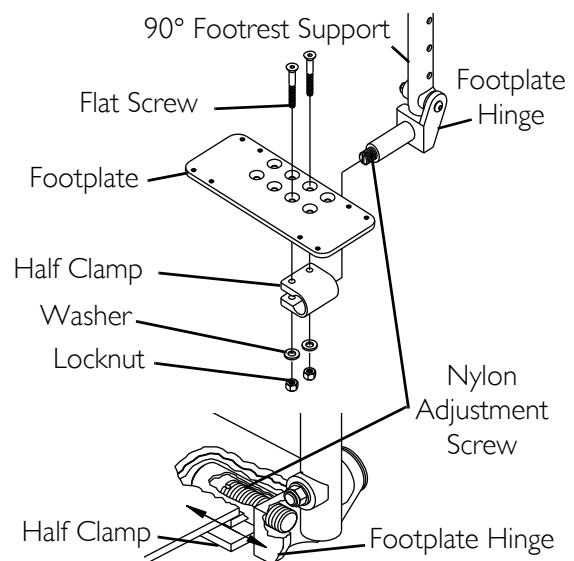
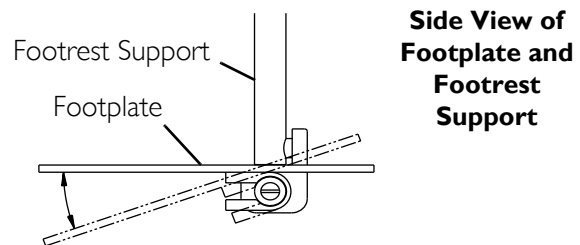
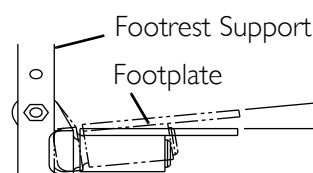

FIGURE 6.7 Installing Adjustable Angle Flip-up Footplates
FIGURE 6.8 Angle Adjustment
FIGURE 6.9 Perpendicular and/or Inversion/Eversion Adjustment
NOTE: For this procedure, refer to FIGURE 6.7.
NOTE: For this procedure, refer to FIGURE 6.7 on page 28.
NOTE: For this procedure, refer to FIGURE 6.7 on page 28 and FIGURE 6.8.
1. Loosen, but DO NOT remove, the two flat screws, washer and locknuts that secure the footplate to the footplate hinge (FIGURE 6.7).
2. Position the footplate to the necessary angle to accommodate the user (FIGURE 6.8).
NOTE: For this procedure, refer to FIGURE 6.7 on page 28 and FIGURE 6.9.
1. Insert a flathead screwdriver through the half clamp to the screw in the hinge pin.(FIGURE 6.7).
2. Slowly turn nylon adjustment screw in or out until footplate is perpendicular to the footrest assembly or the desired inversion or eversion is obtained (FIGURE 6.9).